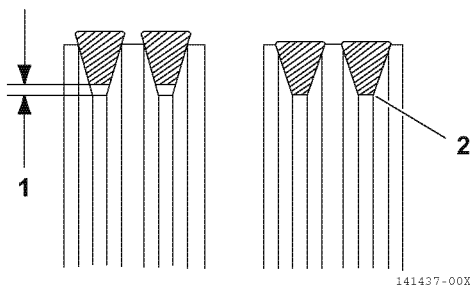

Figure 5-4
3. Tighten the V-belt to the proper tension. There must be clearance (1, Figure 5-4) between the V-belt and the bottom of the pulley groove. If there is no clearance (2, Figure 5-4) between the V-belt and the bottom of the pulley groove, replace the V-belt.